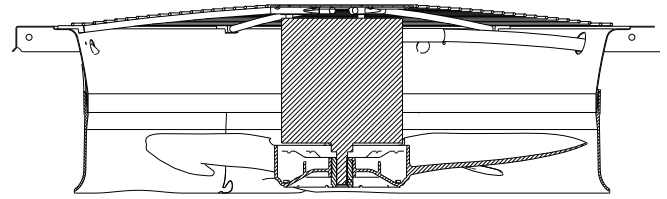

Fig. 34 — Condenser Fan Adjustment
2. Remove condenser-fan assembly (grille, motor, and fan). See Fig. 34.